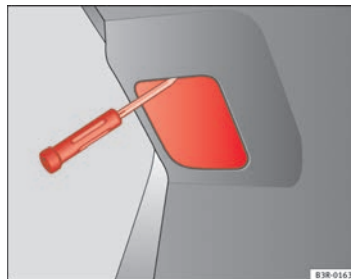

Fig. 220 Remove the cover in the tailgate
- Insert the screwdriver into the opening in the cover from the top ⇒ page 274, fig. 220 and detach the cover.